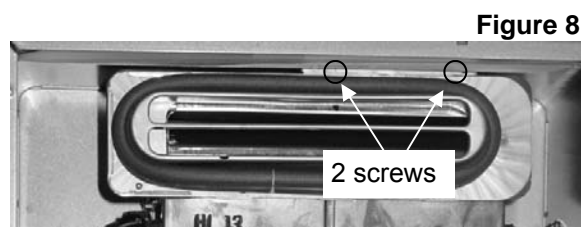

Figure 8
20. Remove 2 screws above the exhaust. Pull assembly from the unit. (Figure 8)